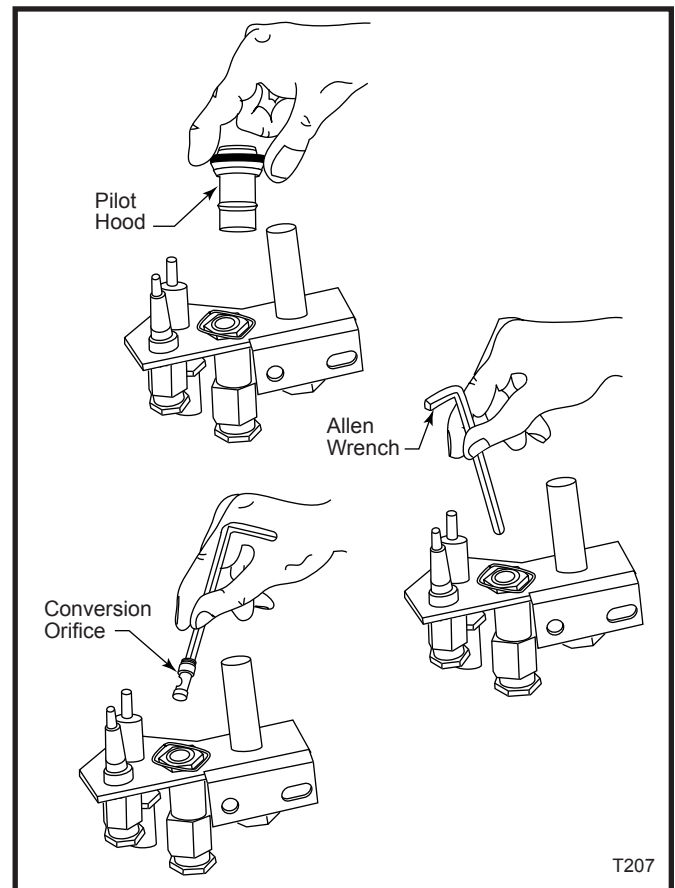

Fig. 53 Remove pilot hood and orifice. Insert conversion orifice.
- The pilot hood is held in place by spring pressure. Remove the hood by pulling it directly up from the pilot bracket. (Fig. 53)
- Insert a 3/32" (4 mm) Allen wrench into the hexagonal keyway of the injector (Fig. 53) and rotate it counterclockwise until it is free of the injector journal. (Fig. 53)
- Insert the Allen wrench into the end of the injector. Insert the injector into injector journal, and rotate the injector clockwise until a torque of 9 in/lbs. is achieved. Replace the pilot hood by aligning the tab on the base of the hood with the slot in the side of the pilot journal. Push the hood down directly onto the pilot bracket. (Fig. 53) The hood must sit squarely on the bracket for proper operation. Check to insure the hood is properly seated onto the pilot bracket.